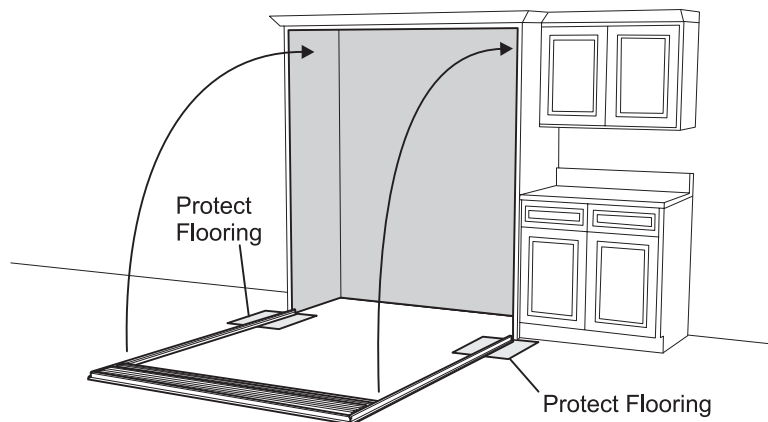

Figure 6
1. First, place protective covering where side trim will contact the floor near rough opening. Then, stand up the grille and frame assembly and center in rough opening. See Figure 6. You may need to use several pieces of tape at the top corners and top center to temporarily hold the assembly in place.